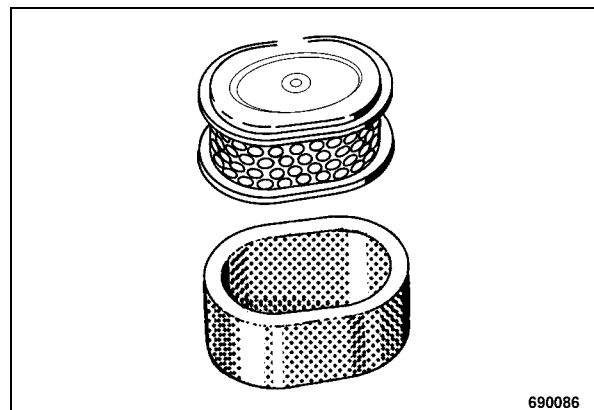

Fig. 46
- Separate the foam rubber and paper elements of the air filter (Fig. 46).